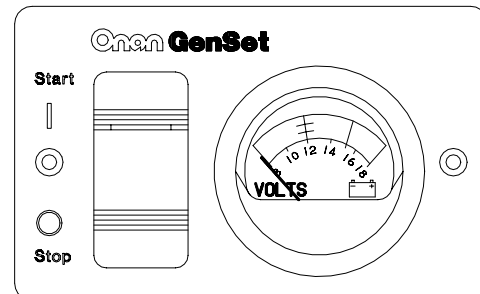

FIGURE 1-6. REMOTE SWITCH / DC VOLTMETER
- Remote switch with status indicator light and DC voltmeter (Figure 1-6).